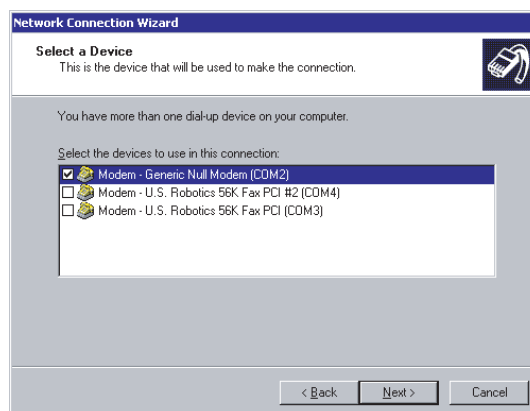

Figure 2.28: Windows 2000 Select a Device
- Select the particular modem installed on your PC, shown in Figure 2.28: Windows 2000 Select a Device.